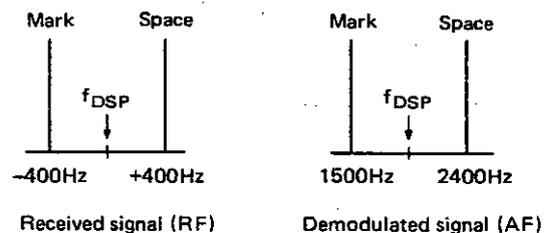

Fig. 4.3 Frequency Relation of Received FAX Signal
- (2) Set the MODE switch (35) to FAX, and the BAND switch (31) to the desired band.
- (3) Turn the main dial (25) so that the demodulated tone may be set at about 1900Hz when the FAX signal is received. Then, make fine adjustment while observing the indicator on the FAX equipment.
- (4) Fig. 4.3 shows the relations between the mark and space frequencies in the received FAX signal. In this example, the center frequency (1900Hz) with the shift width of 800Hz (± 400 Hz) between the mark and space is indicated.